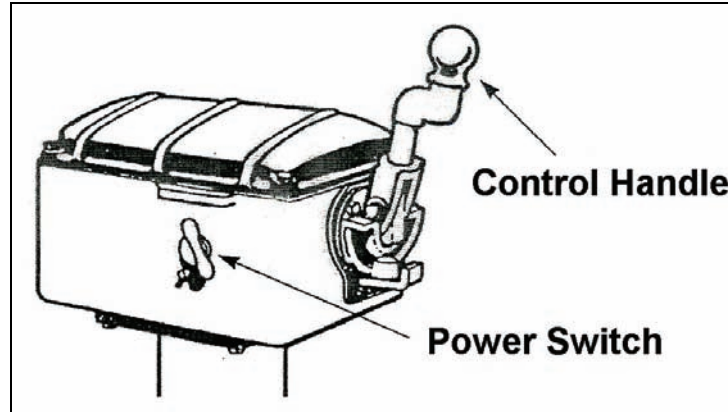

Figure 3-22. Winch Controller
- c. Turn each power switch ON; one at a time and listen for the fan to come on (see Figure 3-22).